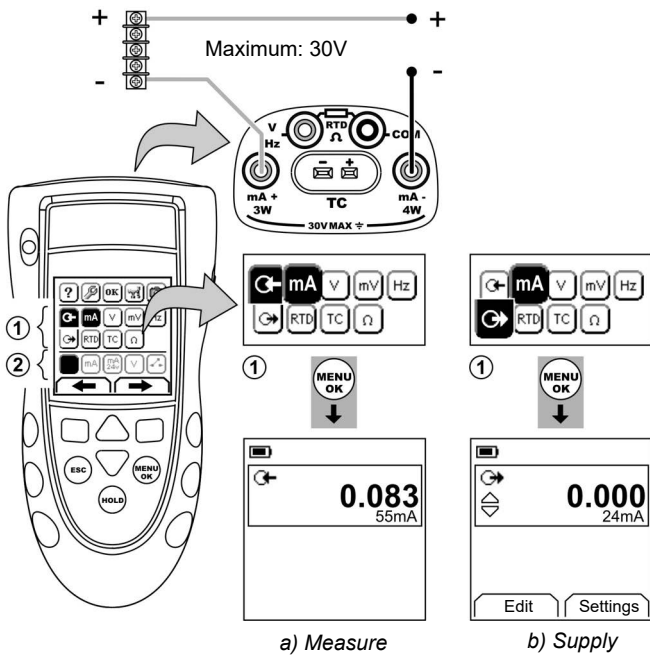

Figure 1: Example configuration - To measure/supply mA with external loop power (Area ①)
1. Connect the instrument (Figure 1, 2 or 3) and, if necessary, adjust the *Set Up* (Table 1).